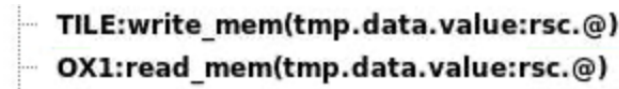

Figure 5: Memory operations on `tmp` local memory struct.
2. If your code is written correctly, the local temporary memory struct `tmp` (or whatever you named it) should be optimized away. After synthesis, in the Catapult scheduler, review whether there is any memory read/write associated with `tmp`. You should not see any operations like Figure 5 in the scheduler. You also should not see any signal with `tmp` in SimVision Design Browser when you run simulation.